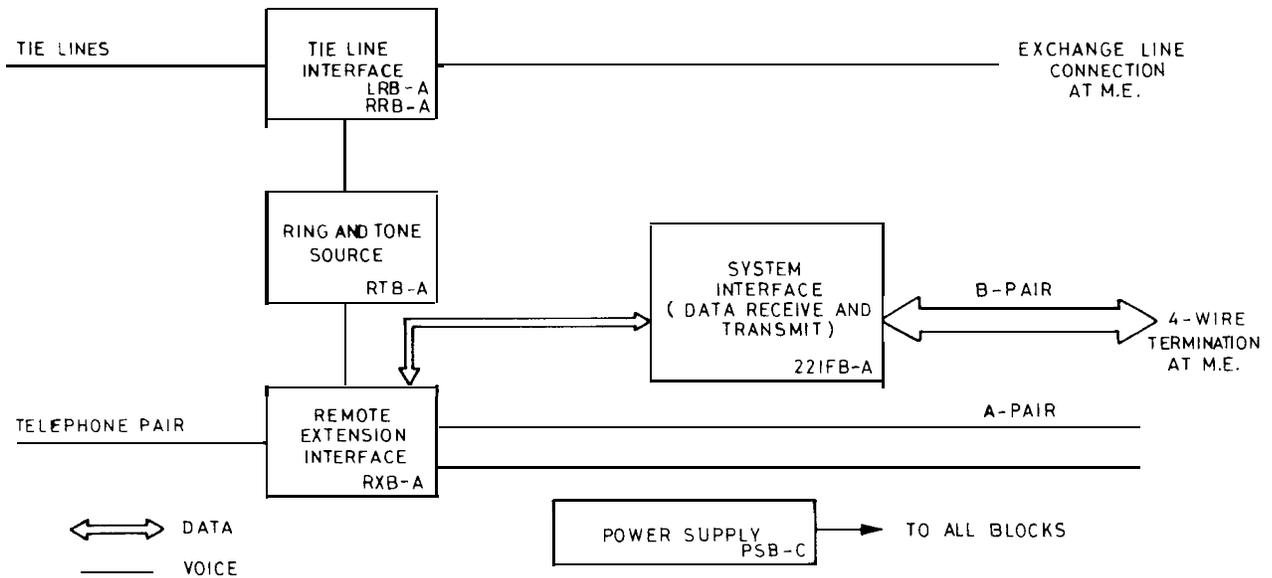

FIGURE 14 REMOTE EXTENSION AND TIE LINE INTERFACE UNIT BLOCK DIAGRAM
1.4.3.6 Remote Extension & Tie Line Interface Unit (Figure 14)